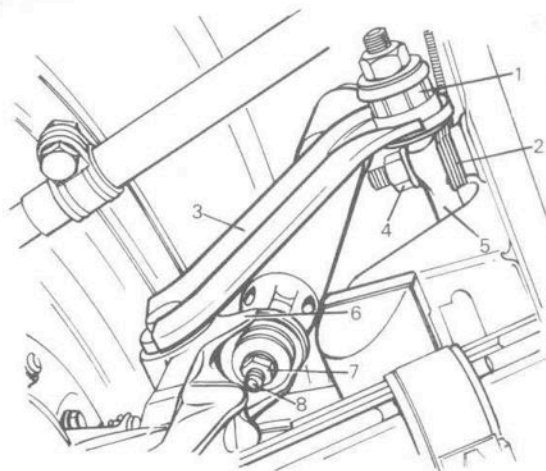

FIG 8:3 Underneath view of control arm and damper mountings
**Key to Fig 8:3** 1 Rubber bush for control arm shaft